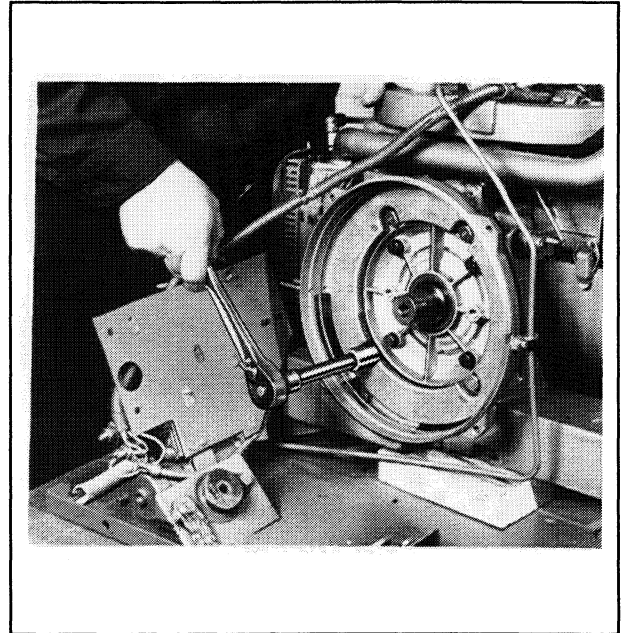

Figure 8-13. Removing Adapter Plate
21. Remove four adapter plate mounting bolts to separate adapter plate from engine. See Figure 8-13.